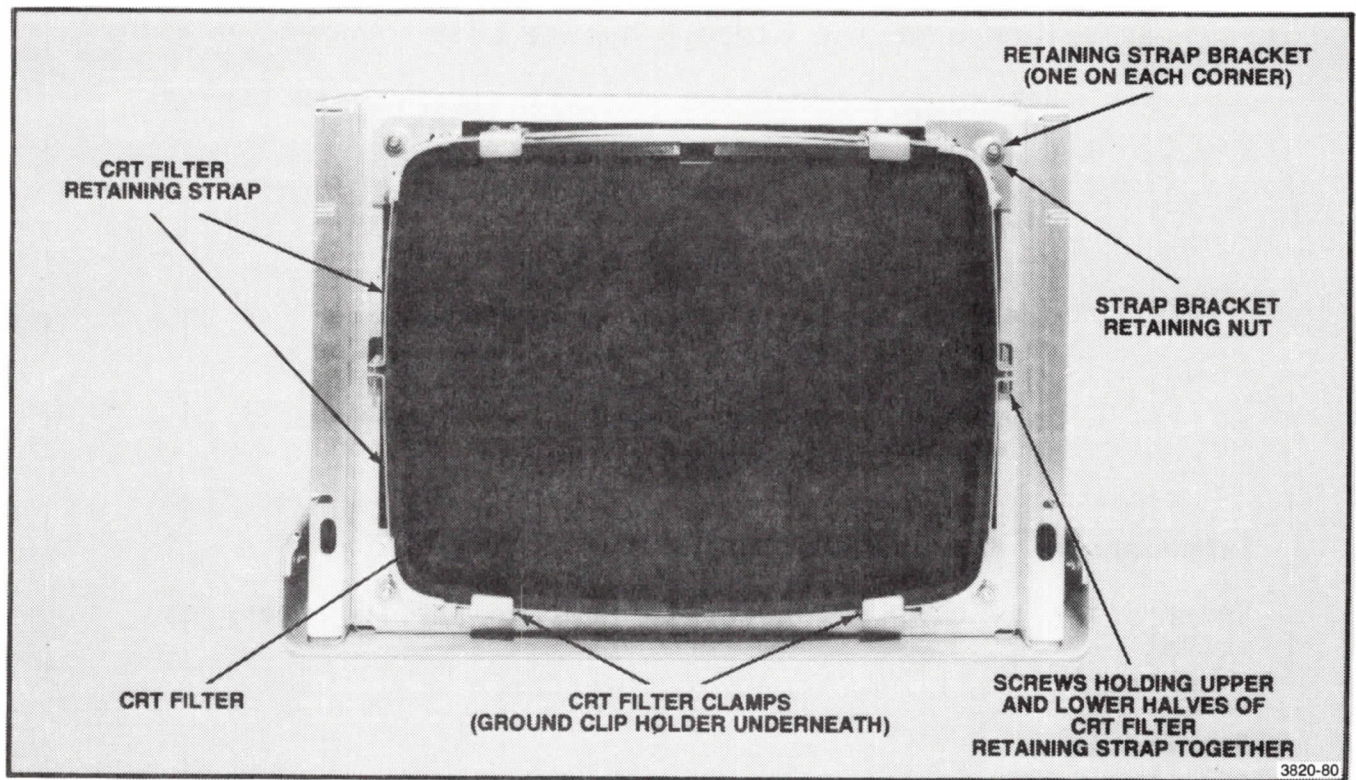

Figure 11-2. Crt Filter Bracket and Hardware.
To clean the crt face and the back of the crt filter, remove the entire crt filter assembly. Refer to Figure 11-2 for the locations of the crt filter assembly parts.
2. Loosen with a 5/16-inch wrench the nuts holding the four crt filter clamps. Refer to Figure 11-2 to locate the crt filter parts.